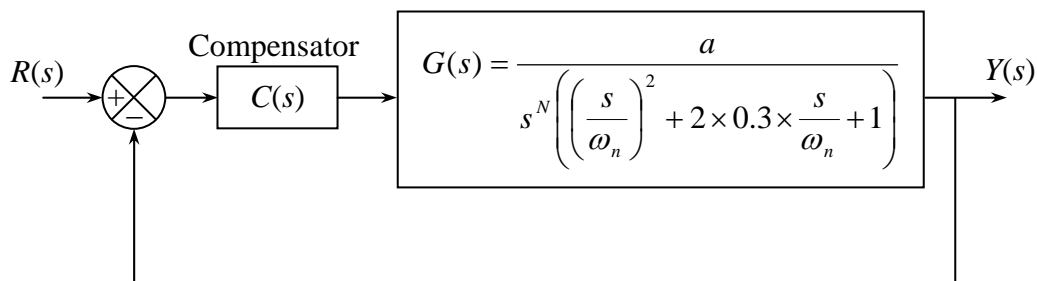

Figure 11.4
11.3 Consider the control system as shown in Figure 11.4 with $a = 1$, $N = 1$ and $\omega_n = 10$ rad/s.